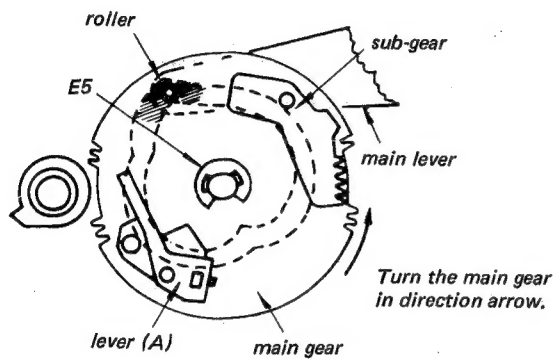

Fig. 2-16
2. Set the main gear as shown in Fig. 2-16.